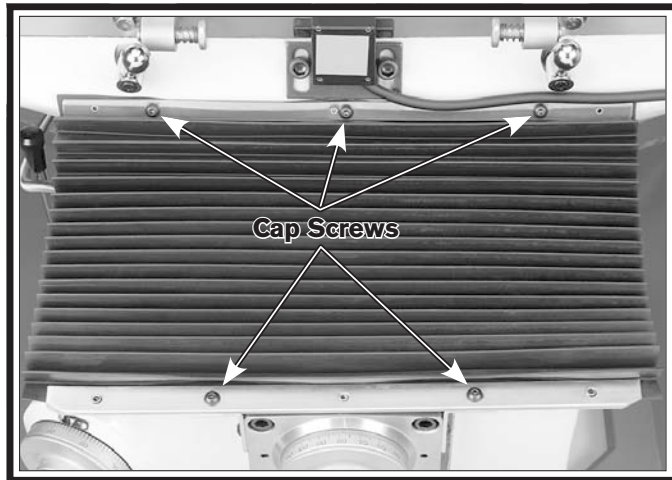

Figure 11. Front way cover installed.
1. Remove the five button-head cap screws shown in **Figure 11** from the front of the saddle and knee, position the pleated way cover in place, then secure it with the removed cap screws.